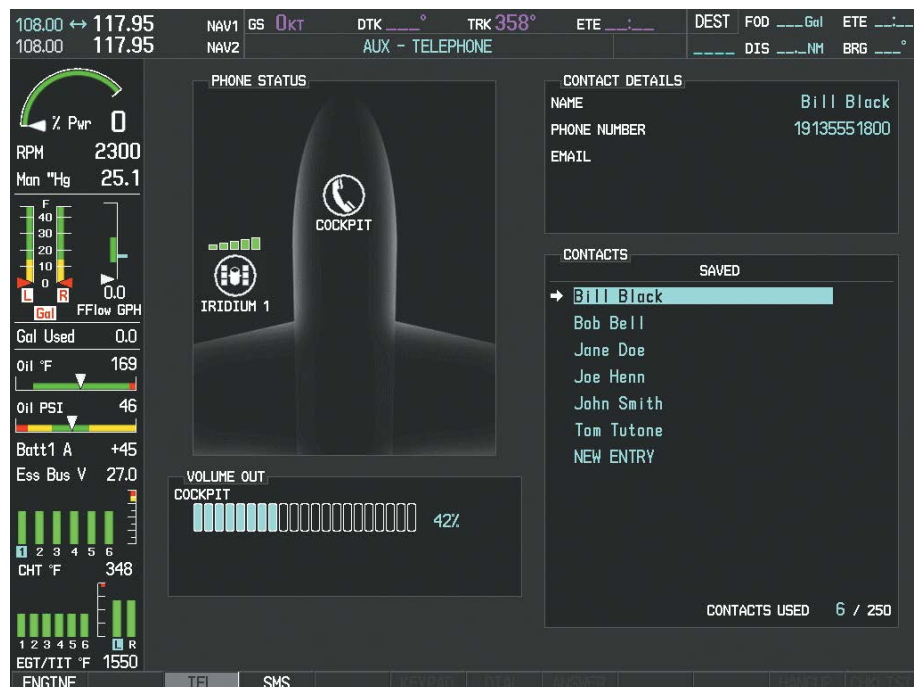

Figure 8-86 Select Contact to be Edited
- 2) Turn either **FMS** Knob to place the cursor on the desired contact name, as shown in Figure 8-86.